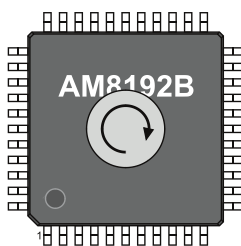
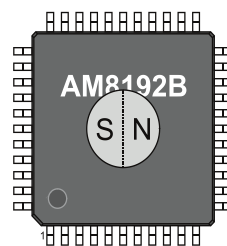

Fig. 2: CW rotation
Fig. 3: Zero position
The arrow in Figure 2 shows clockwise (CW) rotation of the magnet. The picture is a top view of the magnet placed above the AM8192B. CCW is counter clockwise rotation. Figure 3 shows a rotational zero position of the magnet regarding to the chip. The picture is a top view of the magnet placed above the AM8192B.